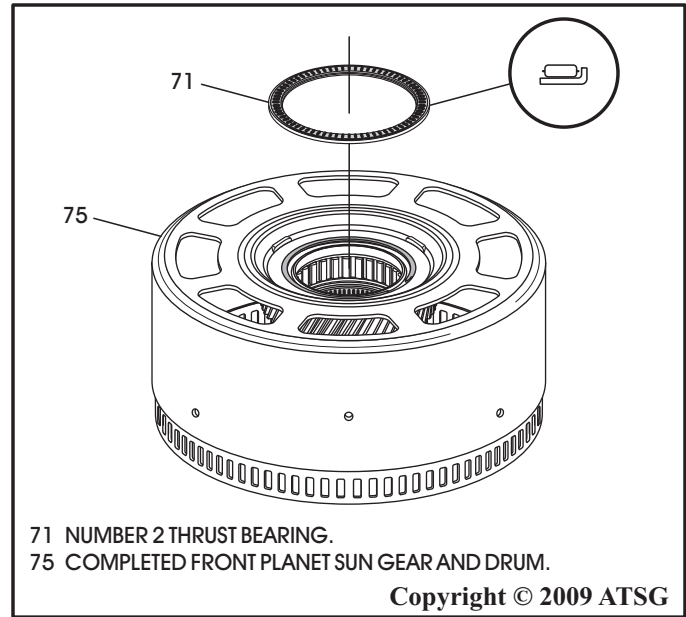

Figure 109
9. Install number 2 thrust bearing on the front planet sun gear and drum assembly, as shown in Figure 109, and retain with a small amount of Trans-Jel®.